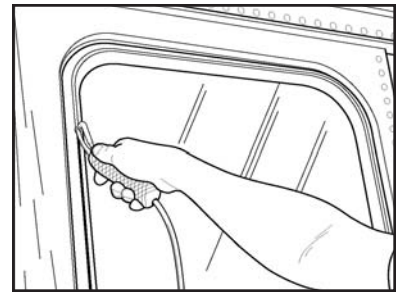

Figure 7
5. Apply soapy solution to the flange on the bus body and to the filler strip channel on the glazing rubber. This acts as a lubricant for easier installation. Wrap a cord around the glazing rubber and rest glass on bottom window flange from the inside of bus body. Pull cord slowly and work glazing rubber onto the window flange (Figure 7).